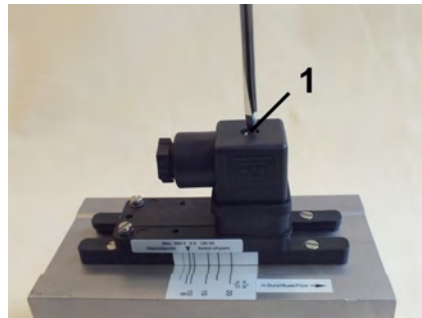

Fig. 22: Detach socket
1. Release the fixing screw (Fig. 22/1)
9. → Place the female socket onto the connecting plug and tighten the fixing screw (Fig. 22/1)